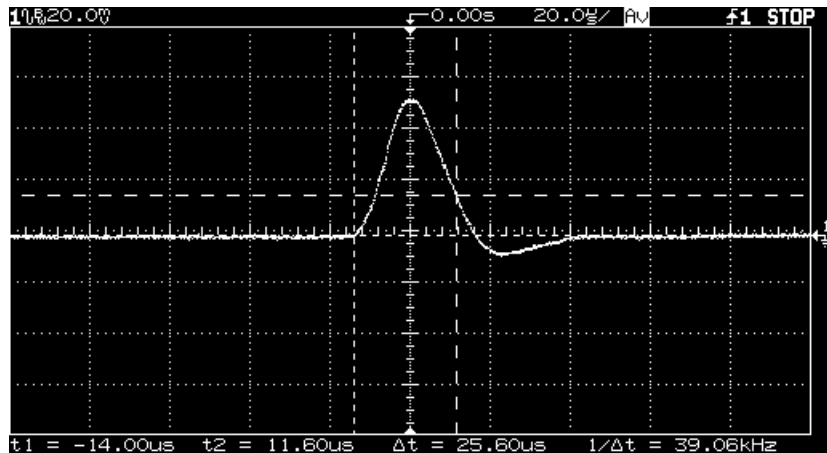

Figure 1-2 Transient response time
- 5 Adjust the the oscilloscope to display transients as shown in Figure 1-2. Note that the pulse width (t_2-t_1) of the transients at 15 mV from the base line is no more than 50 msec for the output.